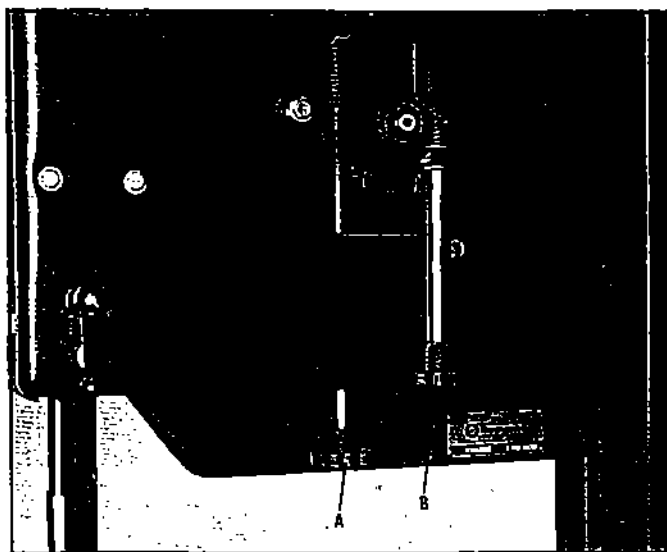
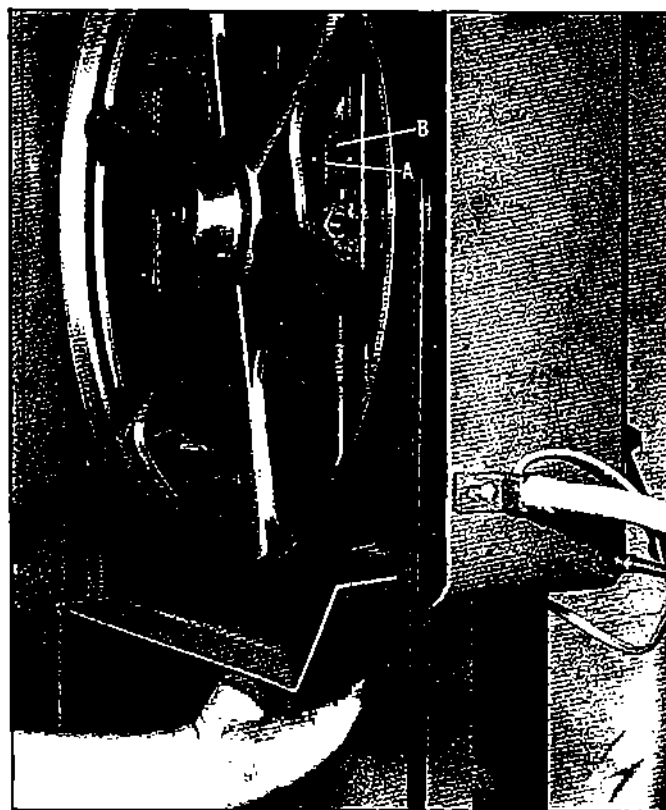

Fig. 3
Fig. 4
1. Turn the blade tension knob (A) Fig. 3, clockwise until the pointer (A) Fig. 4, is on the mark on the tension scale (B), which is equal to the blade width.
2. The tension scale (B) Fig. 4, is correct for standard blades used on average work. It is not affected by variations in blade length and is equally accurate when the blade has been shortened by welding or brazing. Experienced operators may rely upon the feel or tone of the blade for adjusting tension. We recommend the use of the scale to avoid blade breakage, by too much or too little tension. For a blade which is thicker than standard, run the tension pointer slightly higher than the mark on the scale.
2. Revolve the upper wheel forward slowly by hand and turn the tracking adjustment hand knob (B) Fig. 3, until the blade travels in the center of the upper tire.